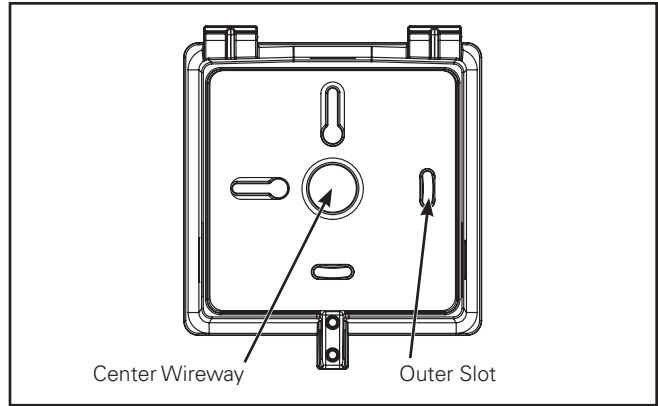

Figure 2.
3. Separate crosstour housing door from the back box. Remove the indicated gasket punch outs on the back box. (Figure 2.)